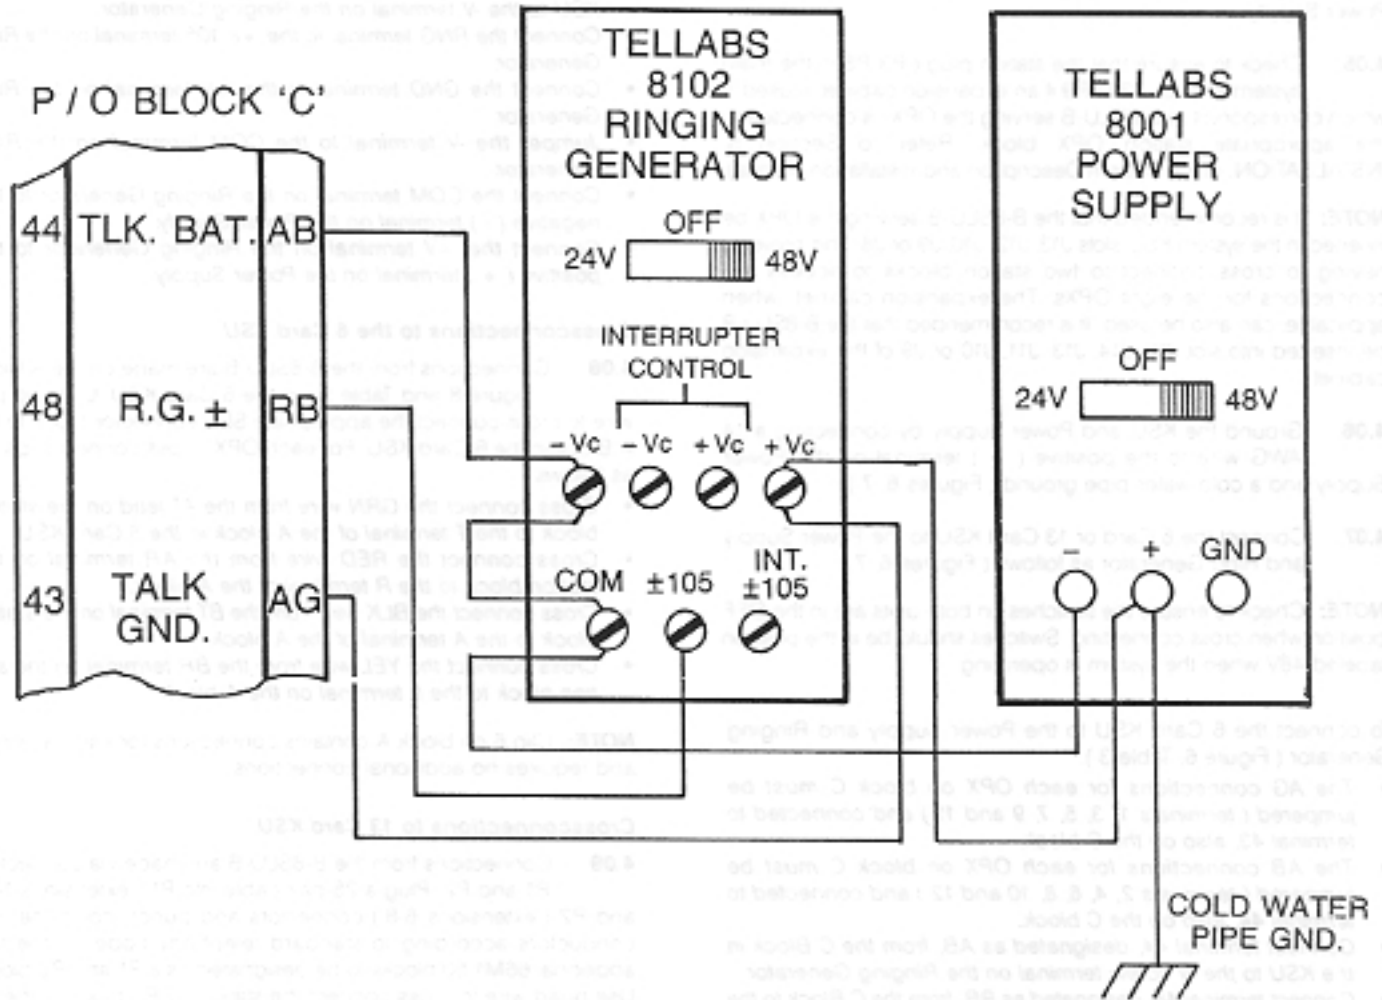

Figure 6 CONNECTING 6 CARD KSU TO POWER SUPPLY AND RINGING GENERATOR
**4.06** Ground the KSU and Power Supply by connecting a 14 AWG wire to the positive ( + ) terminal on the Power Supply and a cold water pipe ground ( Figures 6, 7 ).
**4.07** Connect the 6 Card or 13 Card KSU to the Power Supply and Ring Generator as follows ( Figures 6, 7 ):
To connect the 6 Card KSU to the Power Supply and Ringing Generator ( Figure 6, Table 3 ):